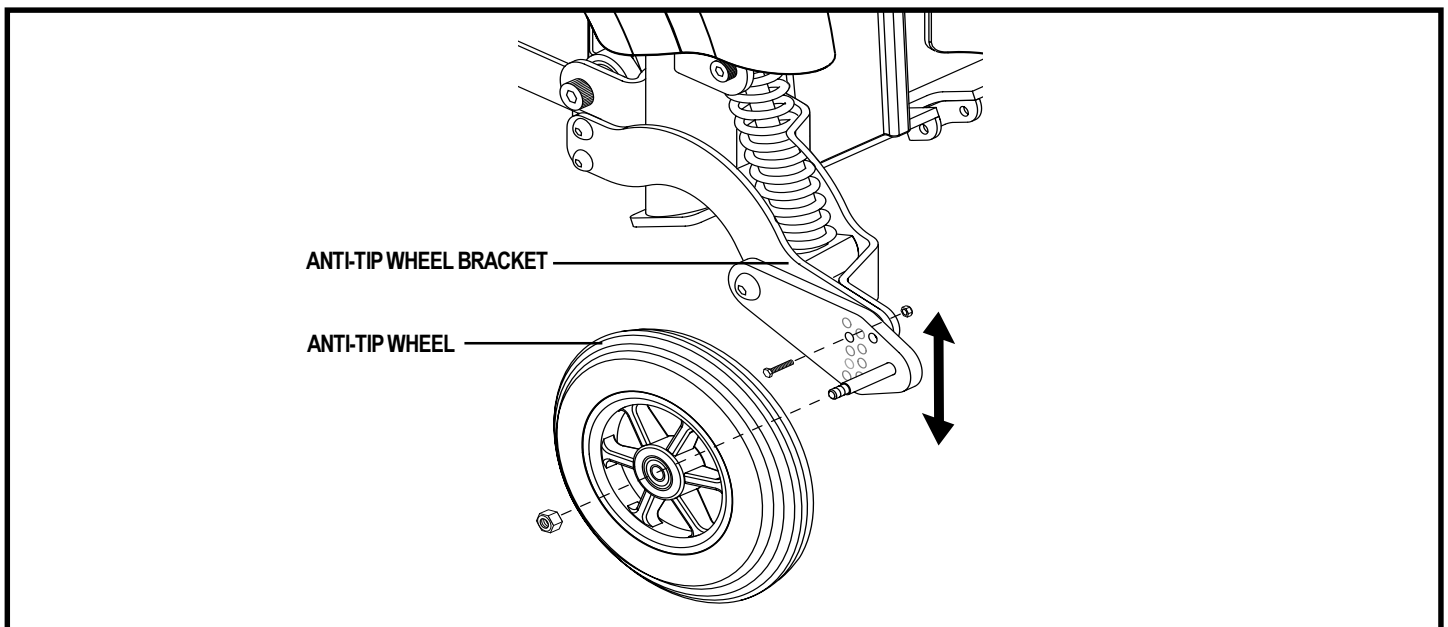

Figure 23. Anti-Tip Wheel Assembly
1. Remove the anti-tip wheel. See figure 23.
2. Remove the nut and bolt on the anti-tip bracket. See figure 23.